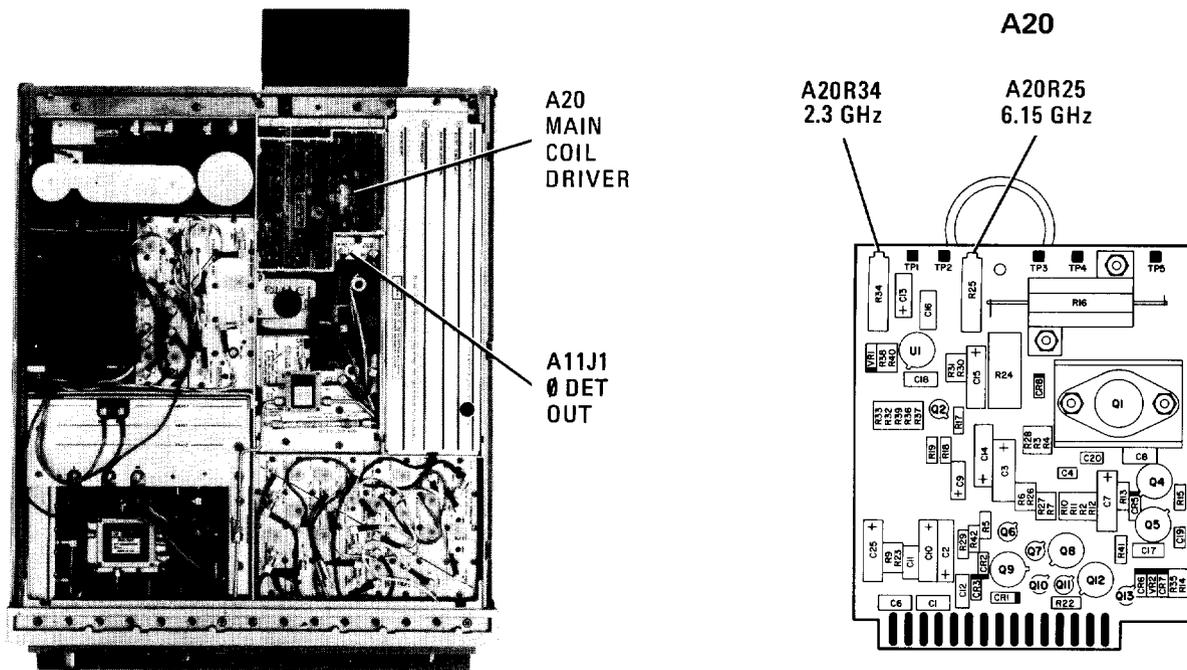

FIGURE 45. LOCATION OF SWEEP, DAC, AND MAIN COIL DRIVER ADJUSTMENTS
43. Adjust A20R34 2.3 GHz adjustment for a frequency counter indication of 2300.0 ± 0.1 MHz. Refer to Figure 45 for location of adjustments. Press $\boxed{\text{SAVE}}$ $\boxed{1}$.